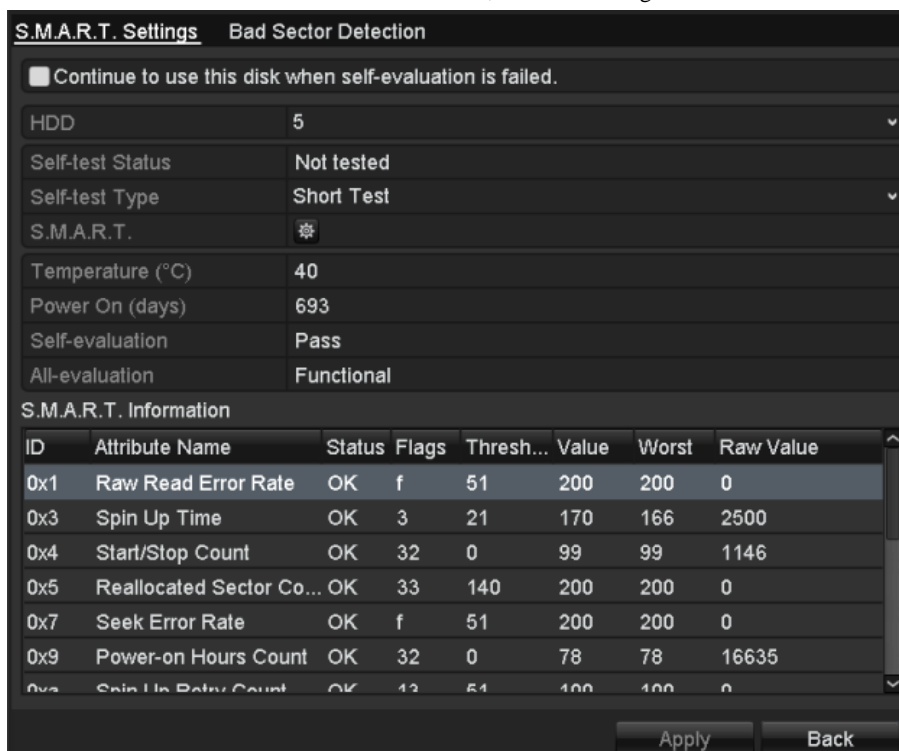

Figure 11. 23 S.M.A.R.T. Settings Interface
2. Select the HDD to view its S.M.A.R.T. information list, as shown in Figure 11. 23.